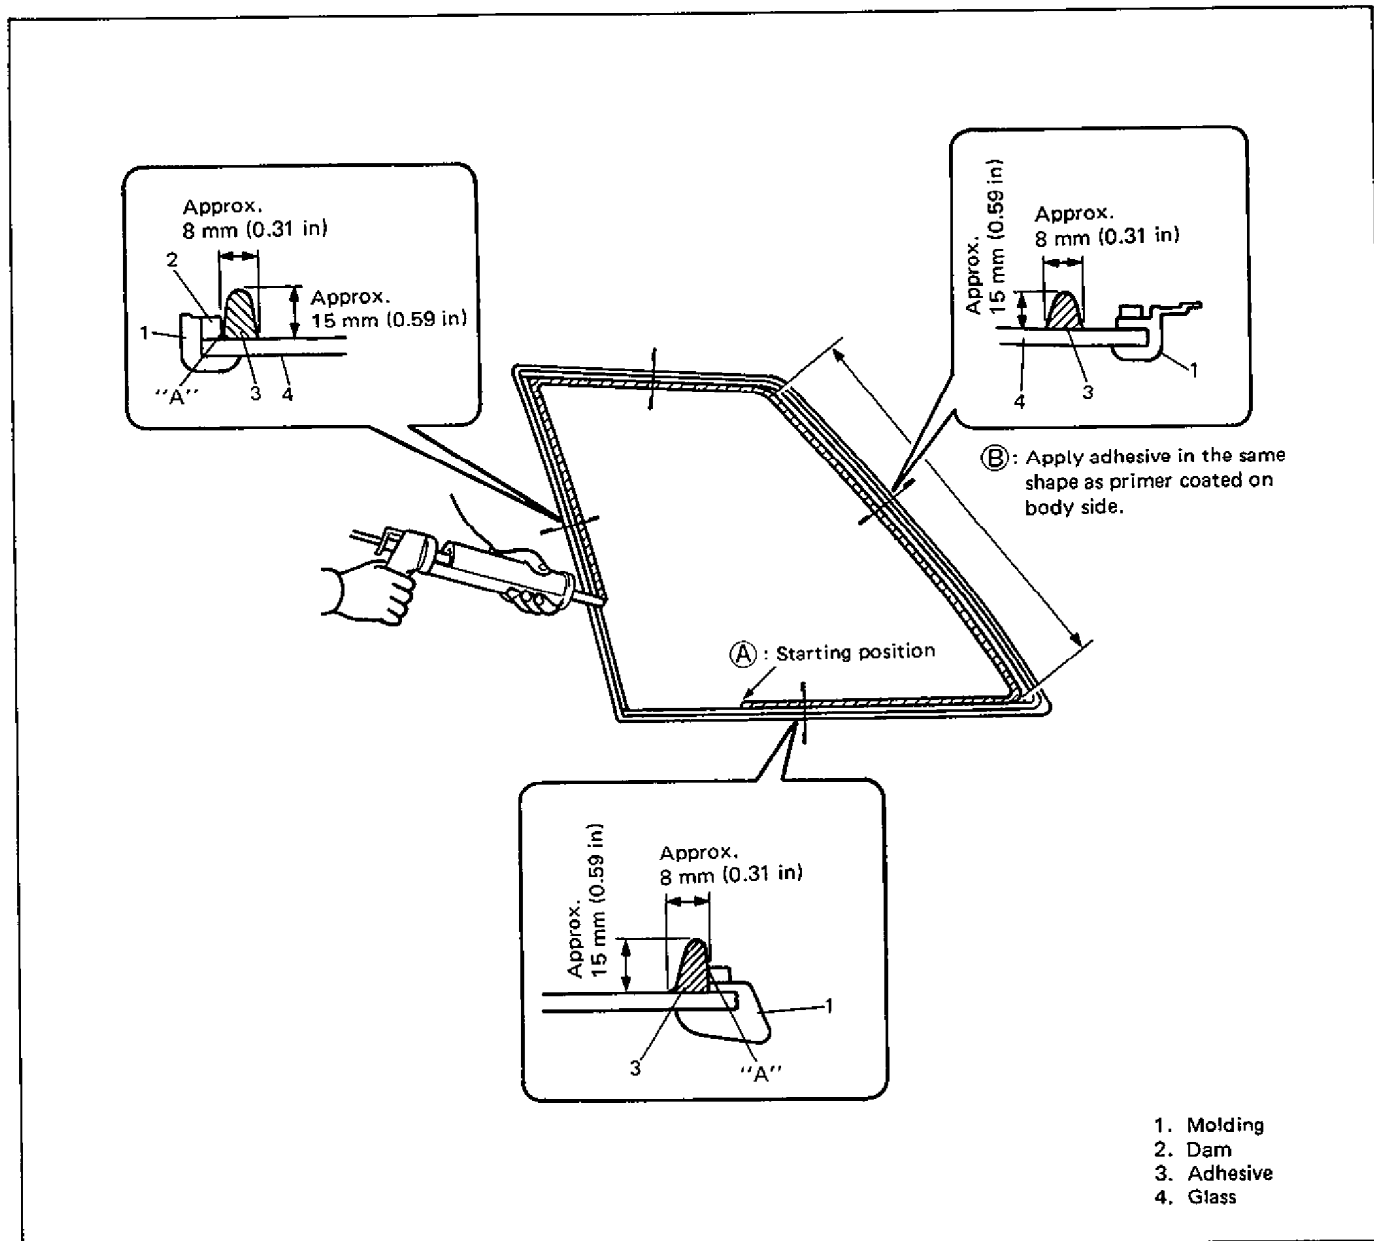

Fig. 9-50 Application of Adhesive
- 5) Clean moulding surface "A" with clean cloth. (Refer to Fig. 9-50.)
- 8) Using new brush, apply sufficient amount of primer for moulding (Urethane) to surface "A" as shown in Fig. 9-50.